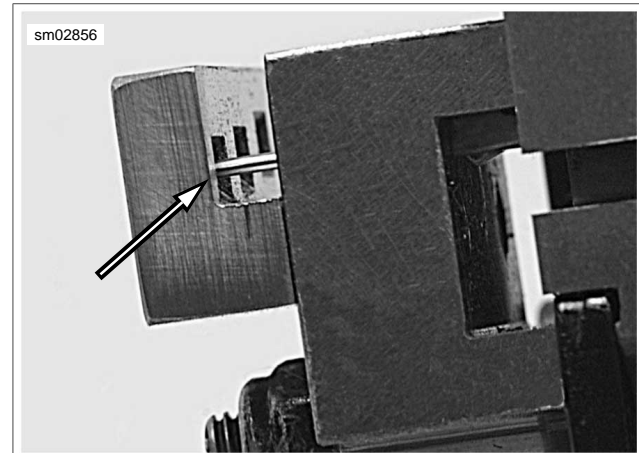

Figure A-35. Pin Terminal against Pin Locator Bar
- b. **Pin Terminal:** See Figure A-35. The tip of a pin terminal passes through the socket locator bar and stops in the notch in the face of the pin locator bar.